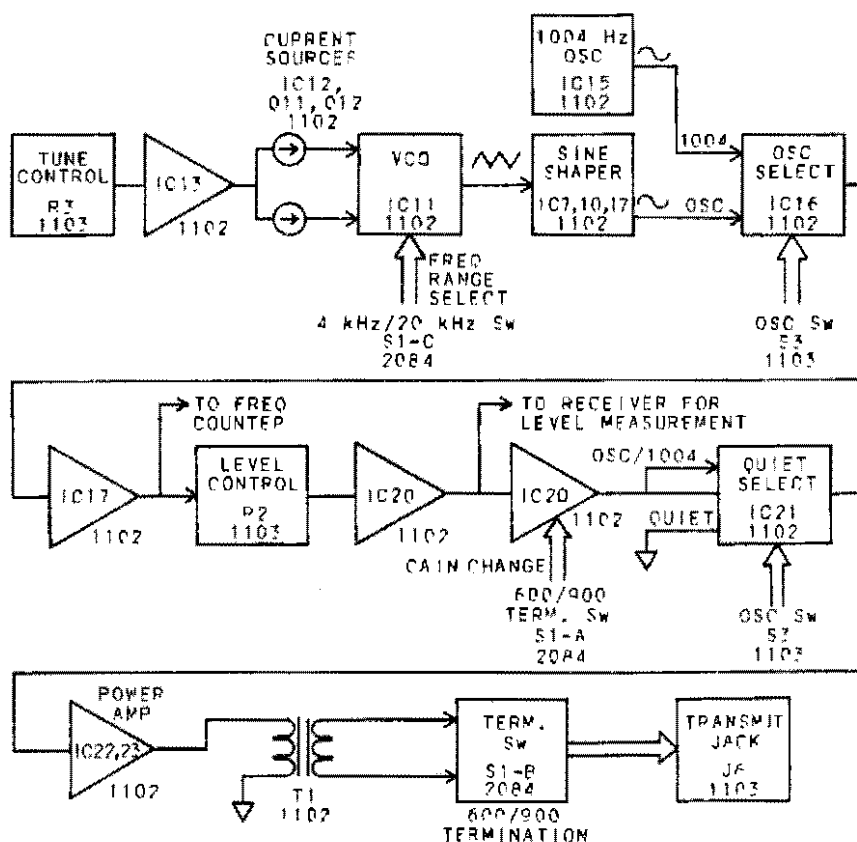

Fig. 4
example, referring to Figure 4, assume you want to locate the VCO circuit on the schematic diagram. The block representing the VCO is labeled VCO and is further identified as IC11 and 1102; this means that the VCO circuit is an IC chip which is identified as IC11 and is located on schematic diagram SD-1102-00. (See Section 5.) The physical location of the chip is shown on the associated assembly drawing, ED-1102-00.
B. Oscillator and Transmitter (Figure 4)